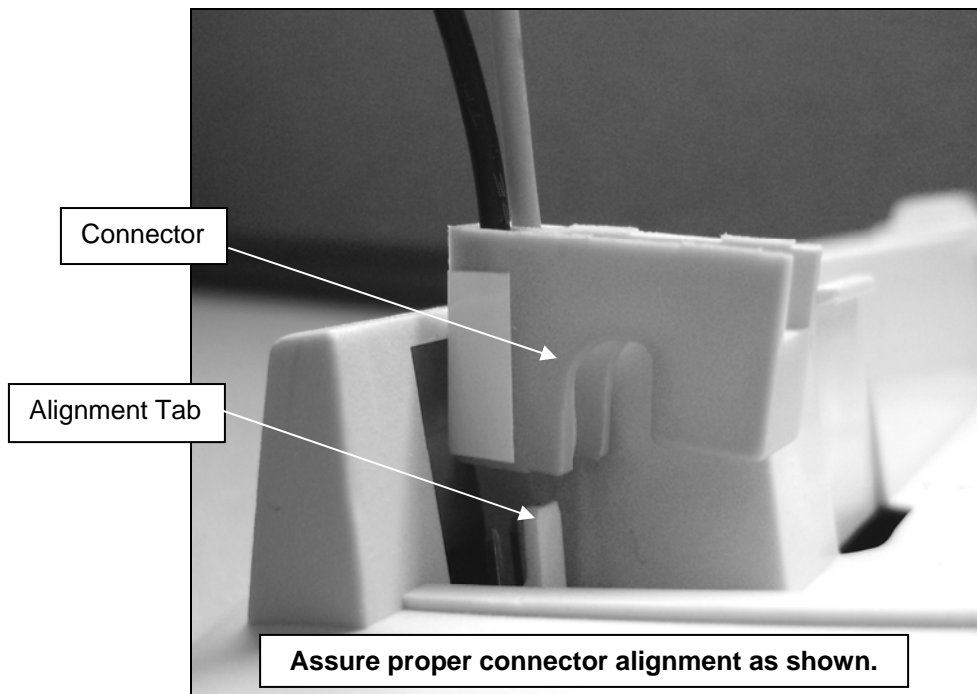

Figure 4
5. Assure proper connector alignment as shown. See Figure 4 below. For alternate connector location, refer to Figure 7 in Appendix.